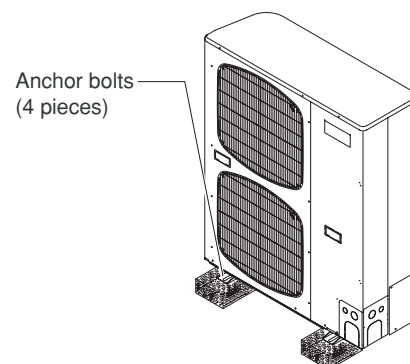

Fig. 2-4
- provide a solid base (concrete block, 4" × 16" beams or equal), a minimum of 6" above ground level to reduce humidity and protect the unit against possible water damage and decreased service life. (Fig. 2-4)